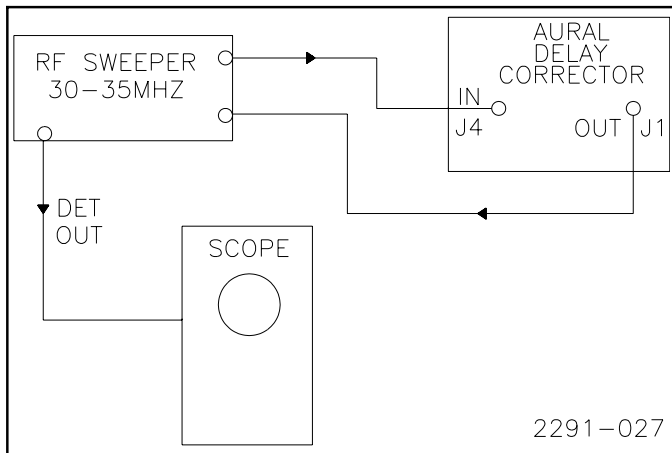
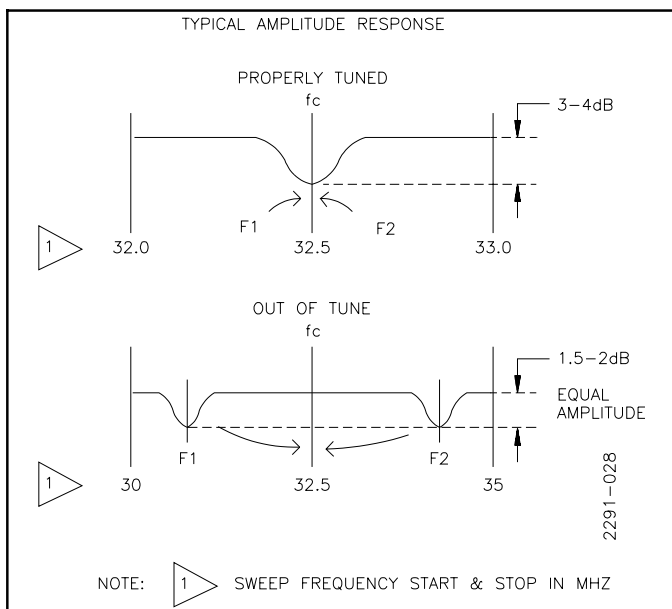

Figure 5-10. Typical Sweep Setup
Figure 5-11. Aural Delay Corrector Amplitude Response
- b. A simple RF sweep test of the sound delay corrector will suffice in re-establishing performance. The objective is to locate the amplitude dips in the sweep response and retune them back on the sound IF frequency (32.50 MHz). Tuning of F1 and F2 is done by adjusting the trimmer capacitors. Refer to Figure 5-10 for typical test equipment setup. Attempt to get the sweep response curves shown in Figure 5-11 with the same amplitude levels as shown.
- d. The amplitude dip in the frequency response curve caused by F1 and F2 should be about equal in amplitude. If not, then adjust the link coupling as shown in Figure 5-14 for equal amplitudes and with the typical levels shown in Figure 5-11.
- e. When F1 and F2 amplitude dips are both positioned on the sound IF carrier, as shown in Figure 5-11, then the delay corrector is ready again for stereo separation adjustments as described above.